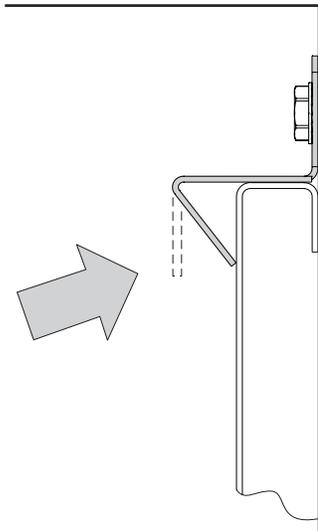

Figure 4
9. Bend the bottom tab of each liner retainer bracket until it touches the liner. See **Figure 4**.